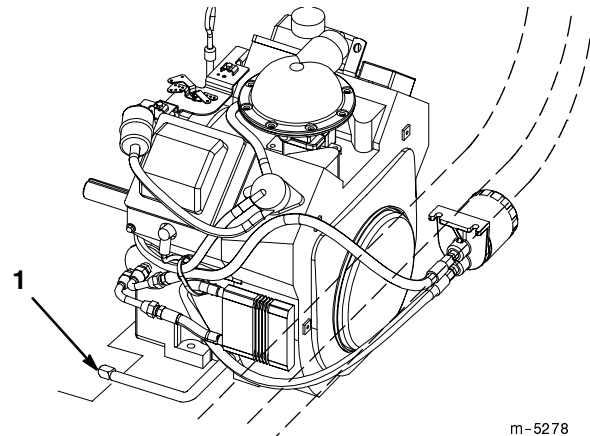

Figure 59
3. Place a pan below the oil drain. Remove the oil drain cap (Fig. 59).